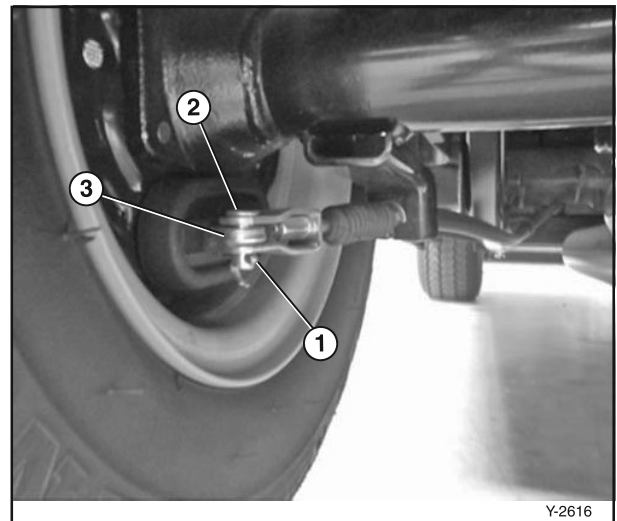

Figure 6-35
- 19. Remove the cotter pin (Figure 6-35, (1)) and remove the clevis pin (Figure 6-35, (2)) from the brake arm (Figure 6-35, (3)).